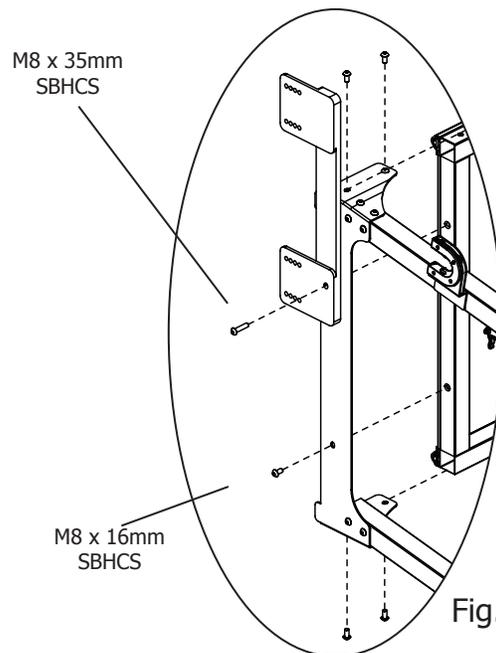

Fig. 4-2
4-2: Slide the left leg assembly under the table assembly, as shown in Fig. 4-2.
4-3: Screw one (1) M8 x 35mm SBHCS through the top hole on the side of the left frame side, and one (1) M8 x 16mm SBHCS through the bottom hole, as shown in Fig 4-2, finger-tighten only.